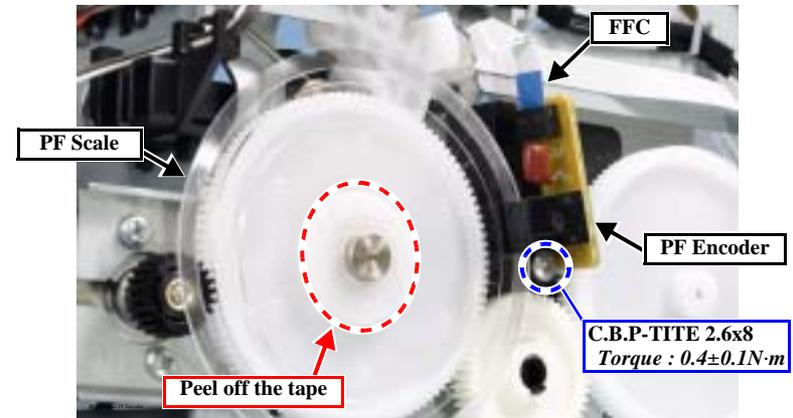

Figure 4-51. Removing the PF Encoder / PF Scale
2. Disconnect the FFC of the PF Encoder, remove the screw, and remove the PF Encoder. (Fig. 4-51)